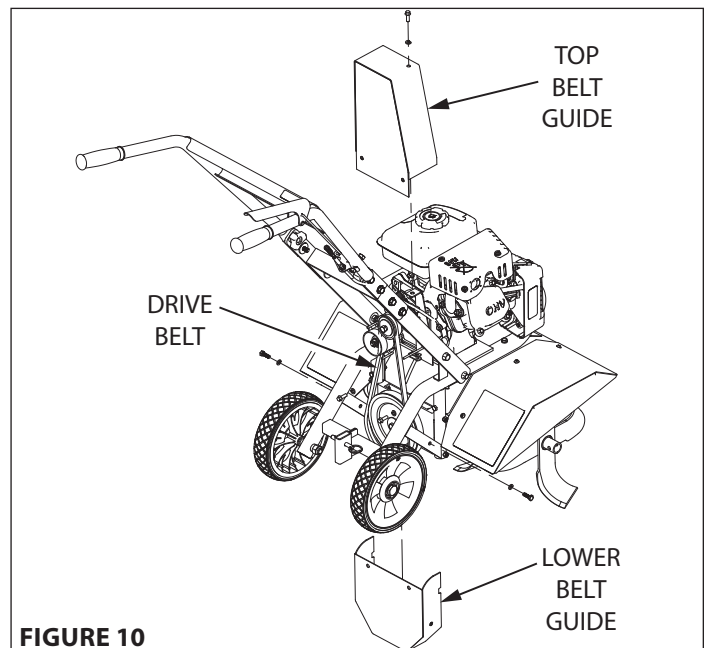

FIGURE 10
3. Remove top and lower belt guards (18129 and 18123). **SEE FIGURE 10**